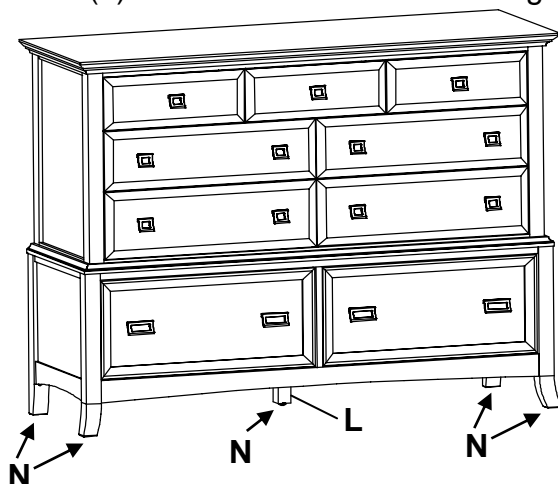

Fig. 3
3. Place the chest at its final destination. Rotate the Small Adjustable Glides (N) on the bottoms of the legs and Assembled Foot (L) until the unit is level. See Figure 3.